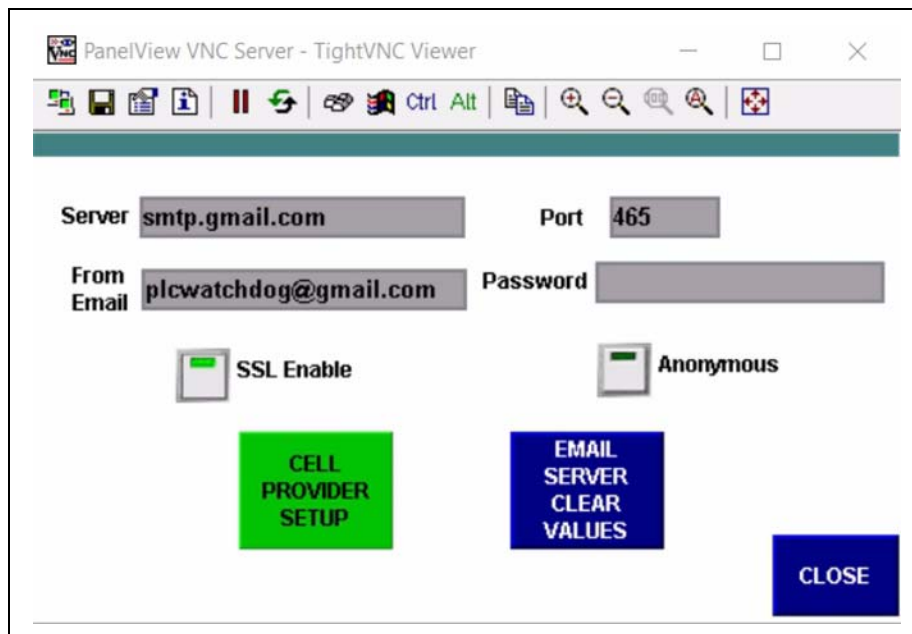

Figure 5B
2. Select Server Setup to get to the SMTP Server Configuration screen as shown in Figure 5B.